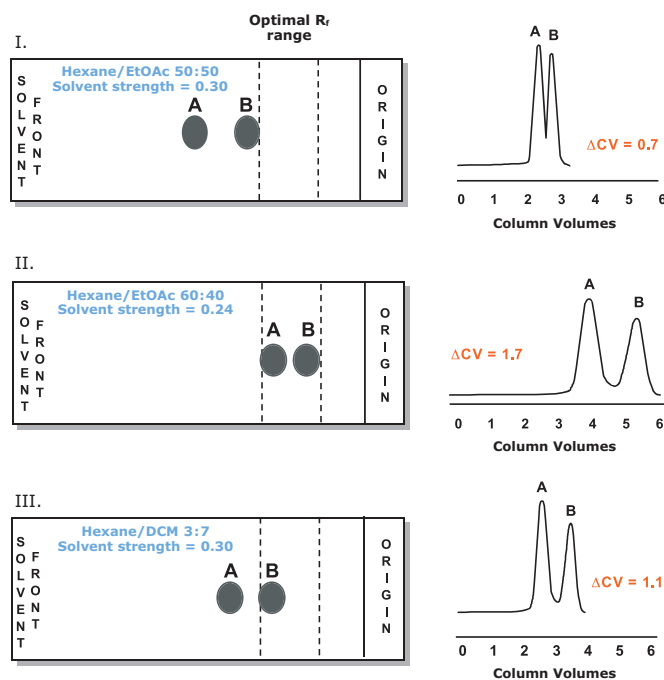

Figure 11. Examples of solvent strength on compound retention and resolution.
To bring the R_f of the compound of interest into the optimal range, reduce the amount of polar solvent in the mobile phase. As an example, in **Figure 11**, the results of a solvent selectivity study show a mobile phase of 50% hexane and 50% ethyl acetate (solvent strength = 0.30), providing adequate selectivity for a crude sample (**Figure 11**, top). The R_f for the compound of interest (B) is 0.4 (2.5 CV) and the R_f of the impurity (A) is 0.55 (1.8 CV), providing a ΔCV of 0.7. With a ΔCV this low, only a small sample amount can be flash purified before overload (resolution loss, low purity fractions) occurs. By weakening the solvent strength to 60% hexane and 40% ethyl acetate (solvent strength 0.24) (**Figure 11**, middle); the R_f of compound B falls to 0.2 (5 CV) and impurity A's R_f is lowered to 0.3 (3.3 CV) with a resulting ΔCV of 1.7, enabling a potential fivefold increase in sample load on a flash cartridge (**Table 3**).
If you find adequate component retention with a particular solvent mixture, you can prepare other solvent mixtures of similar strength but different selectivity for comparison (**Figure 11**, bottom).